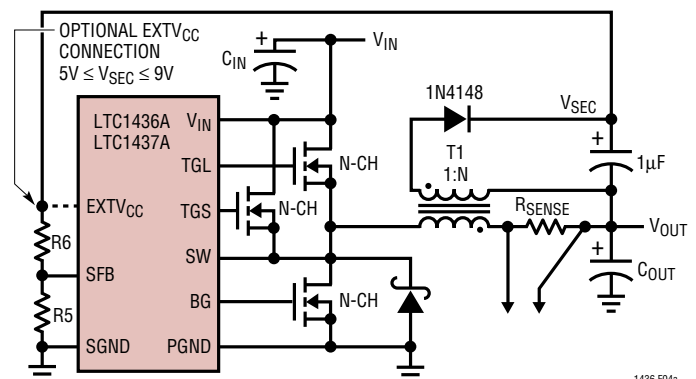
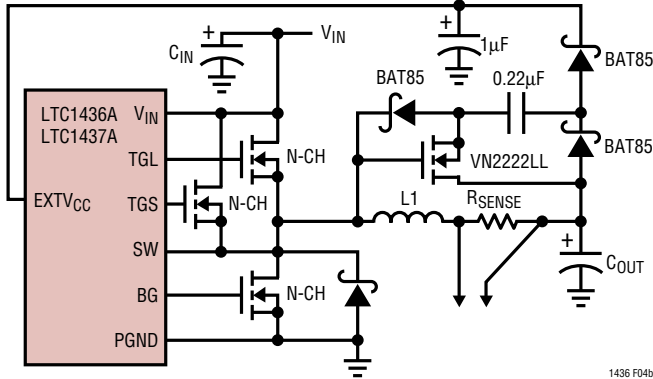

Figure 4a. Secondary Output Loop and EXTV_{CC} Connection
Figure 4b. Capacitive Charge Pump for EXT V_{CC}
3. EXTV_{CC} connected to an output-derived boost network. For 3.3V and other low voltage regulators, efficiency gains can still be realized by connecting EXTV_{CC} to an output-derived voltage which has been boosted to greater than 4.8V. This can be done with either the inductive boost winding as shown in Figure 4a or the capacitive charge pump shown in Figure 4b. The charge pump has the advantage of simple magnetics.
The secondary output voltage is set by the turns ratio of the transformer in conjunction with a pair of external resistors returned to the SFB pin as shown in Figure 4a. The secondary regulated voltage V_{SEC} in Figure 4a is given by: